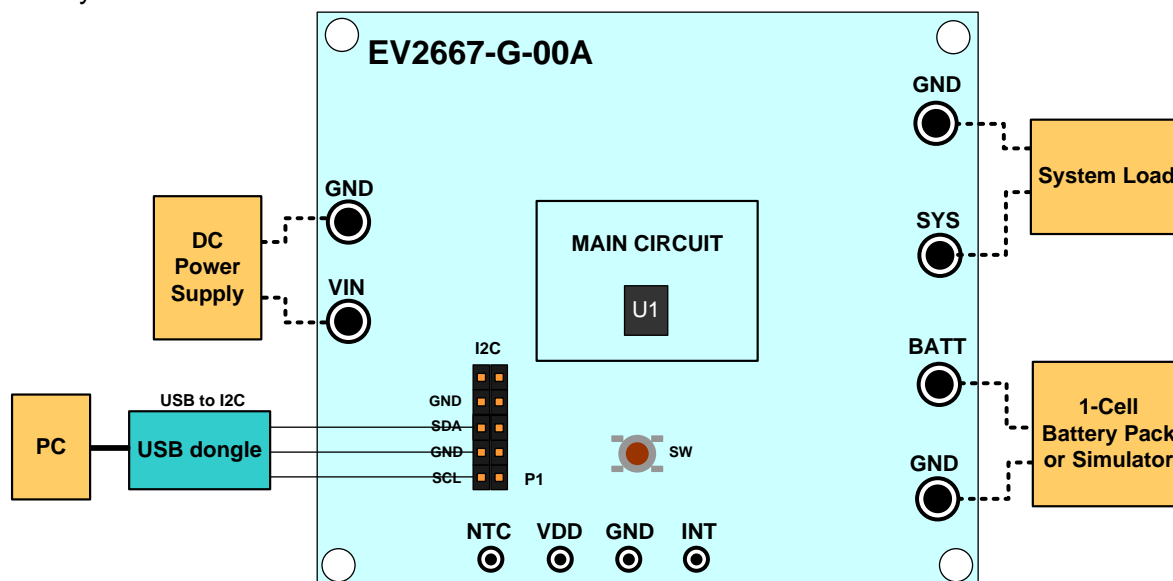

Figure 6: Test Setup for MP2667
4) Original Test Setup for MP2667 in Figure6